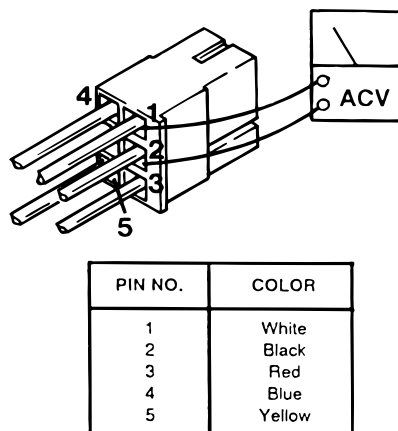

Figure 5-6. Connector CN4
2. Use an AC voltmeter capable of measuring 120 volts and measure the voltage between pins 1 (white) and 2 (black) of connector CN4 for input voltage. See figure 5-6. Meter should read line voltage 120 VAC.